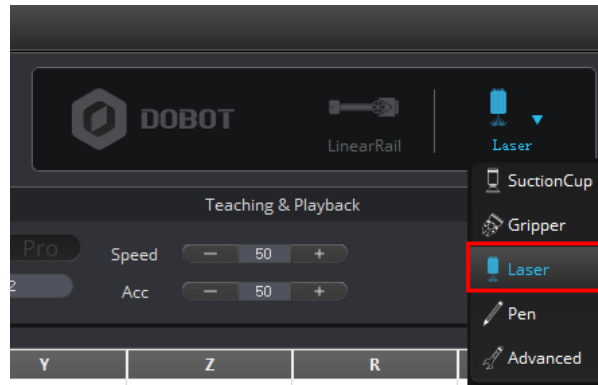

Figure 5.67 Choose Laser as the end-effector
- Step 4** Choose **Laser** as the end-effector, as shown in Figure 5.67.